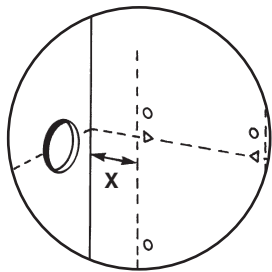

Fig. 40
1. For both Left and Right Hand Flue - Measure the distance from the wall to the nearest line marked from the template. This will be known as dimension **X** (Fig. 40).